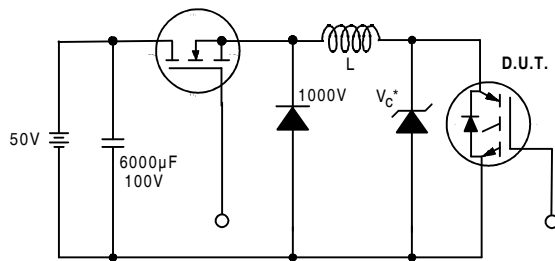

Figure 19. Clamped Inductive Load Test Circuit
- ②  $V_{CC}=80\%(V_{CES})$ ,  $V_{GE}=20V$ ,  $L=10\mu H$ ,  $R_G = 5.0\Omega$  (figure 19)
- ③ Pulse width  $\leq 80\mu s$ ; duty factor  $\leq 0.1\%$ .
- ④ Pulse width  $5.0\mu s$ , single shot.